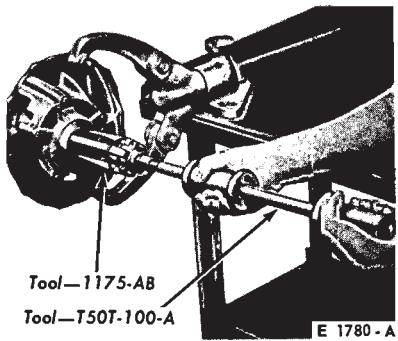

FIG. 25—Removing Pinion Seal
3. Remove the pinion seal (Fig. 25).